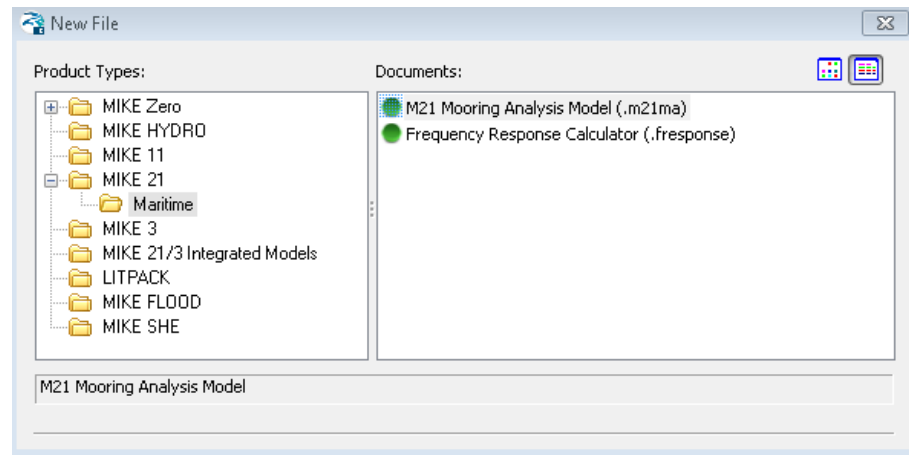
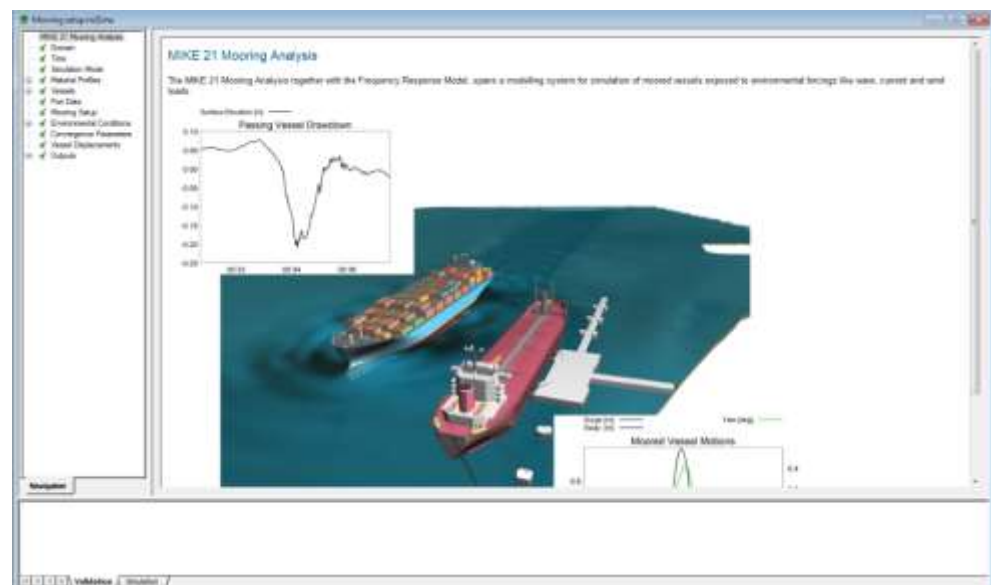

Figure 2-8 Location of MIKE 21 Mooring Analysis setup editor
Figure 2-9 M21 MA main page
1. Open a new instance of the (.m21ma) editor as shown in Figure 2-8 by clicking **OK**. The M21 MA main page (Figure 2-9) should appear on the screen.